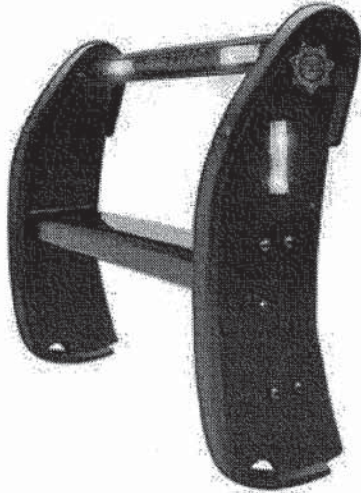

Figure 27A – Setina – Bodyguard PB-450-L push bumper with integrated LED
- a. Setina - Bodyguard PB-450-L with integrated front and side mounted LED LED (Figure 27A); or ;